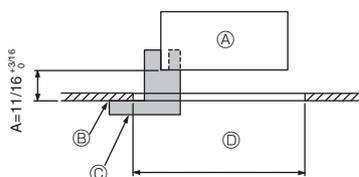
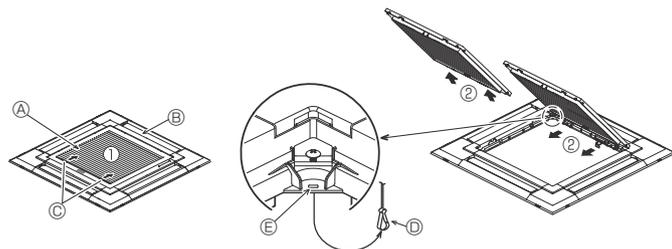
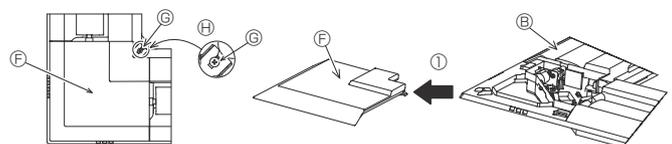

Fig. 2
Fig. 3
Fig. 4
①	Grille	1	950 × 950 (mm), 37-3/8 × 37-3/8 (inch)
②	Installation gauge	1	(Divided into 4 parts)
③	Screw (4 × 16)	1
④	i-see Sensor corner panel	1
2. Preparing to attach the grille (Fig. 2)
- With the gauge ② supplied with this kit, adjust and check the positioning of the main unit relative to the ceiling surface. If the main unit is not properly positioned relative to the ceiling surface, it may allow air leaks or cause condensation to collect.
- Ⓒ Installation gauge ② (inserted into the main unit)
2.1. Removing the intake grille (Fig. 3)
- Slide the levers in the direction indicated by the arrows ① to open the grille.
- With the intake grille in the "open" position, remove the hinge of the intake grille from the grille as indicated by the arrows ②.
2.2. Removing the corner panel (Fig. 4)
- Loose the 4 screws on the corner. Slide the corner panel in the direction of the arrow ① in the figure and remove the corner panel.
[Fig. 3] [Fig. 4]